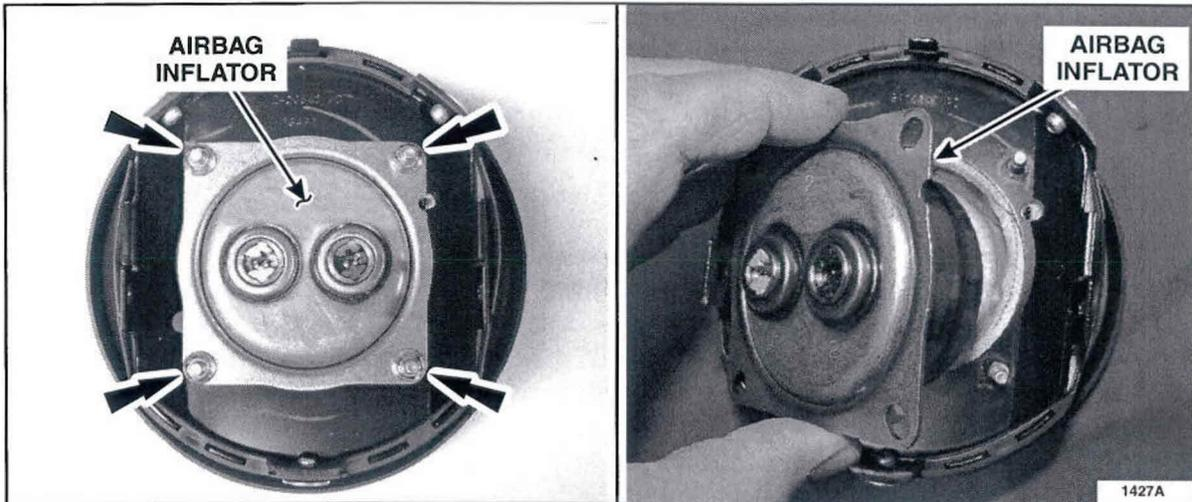

FIGURE 1
3. Remove and discard the four airbag inflator retaining nuts from the driver side airbag. See Figure 1.
4. Remove the airbag inflator and set aside for return shipping. See Figure 1.